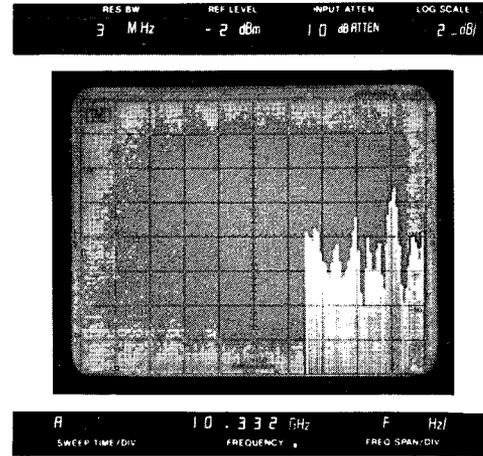

Figure 4-19. Typical Frequency Response, 18 to 22 GHz.
- y. Press spectrum analyzer ERASE pushbutton and set PERSIST control fully clockwise. Trigger the sweep oscillator and slowly adjust sweep time vernier for display similar to that of Figure 4-19. STORE display and read greatest positive and negative deviations from center horizontal graticule line.